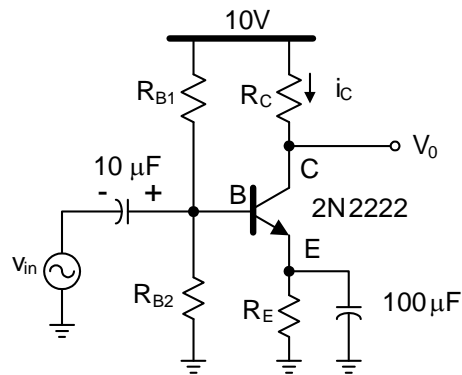
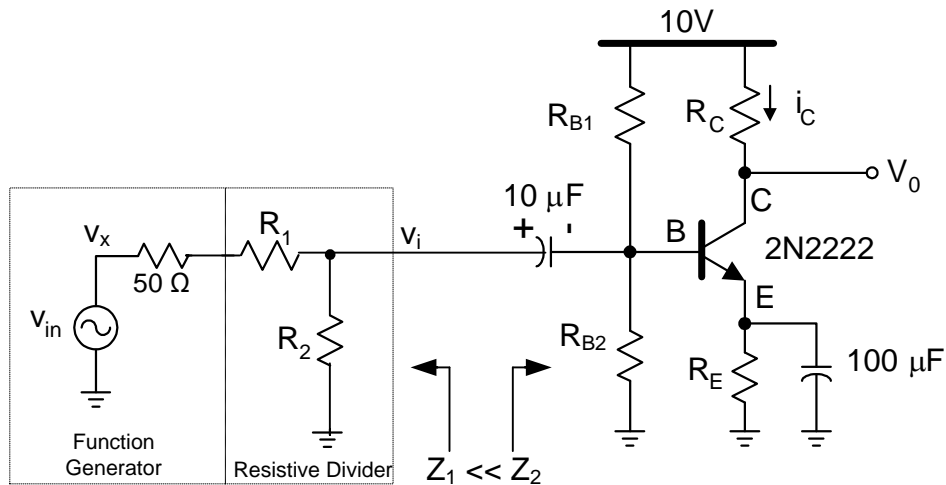

Fig. 3. Common-emitter configuration
Fig. 5. BJT CE amplifier Lab setup.
6. Find the value of the resistors for the circuit shown in Fig. 3 so that the magnitude of the small signal voltage gain is 40 dB and the DC collector current is 1 mA. Let $\beta = 155$. Determine the values of R_{B1} and R_{B2} so that $R_{B1} || R_{B2} > 100$ k Ω . First, check the operating point of your design and verify that the voltage gain is approximately given by $-g_m R_C = -\alpha R_C / r_e$. Compute the values of the input impedance at the base and the output impedance at the collector.
8. Construct the circuit in Fig. 3 in PSpice and compare the simulated results and calculations. Explain the differences if any. Also, plot the frequency response over the range and find the low frequency and high frequency poles (adjust the frequency range until you see a lower and upper -3 dB frequencies).
5. To characterize the amplifier shown in Fig. 3., apply a sinusoidal signal of 10 kHz and amplitude of 10 mV at the input of the amplifier. You may have to use a resistive voltage divider to reduce the amplitude of the signal provided by the signal generator if that cannot be as small as 10 mV. This setup is shown in Fig. 5. Use $R_1 = 400 \Omega$ and $R_2 = 50 \Omega$. For R_{B1} , R_{B2} , R_C and R_E use the values computed in the pre-lab. Put the function generator in the 50 Ω impedance mode (not Hi-Z). The 50 Ω shown in Fig. 5 is internal to the function generator. Do not place an external 50 Ω resistor.
In this section, the BJT CE amplifier (shown in Fig. 5) is used to perform distortion measurements. The common emitter amplifier has been designed with a small signal voltage gain of 40 dB, which is 100 V/V. The amplifier is connected to supply rails between +10V and Ground. Also the voltage swing at the collector terminal is limited within a certain range (based Quiescent Voltage at the Collector in your design). It can be very easily seen that with a gain of 100 V/V, a small input amplitude at the base of the transistor can easily saturate the output of the amplifier and considerably distort the output. So, we attenuate the signal from the function generator using a resistor divider before connecting it to the base terminal of the transistor. The following steps outline how to measure the distortion performance of such a configuration.
1. We will use the circuit configuration shown in Fig. 5. The 50 Ω shown in Fig. 5 is internal to the function generator. Do not place an external 50 Ω resistor. We will use $R_1 = 400 \Omega$ and $R_2 = 50 \Omega$ to give us a division ratio of 0.1 from v_x to v_i .
Be careful when calculating the output peak voltage obtained using the function generator and the resistor divider circuit in Fig. 5. When the function generator's output impedance is 50Ω , the voltage produced inside the function generator (V_{IN} Fig.) is twice the value indicated on the display. You need to calculate the voltage produced at V_i accordingly. So when the function generator displays the output to be 50 mVpp, V_i can be calculated as: